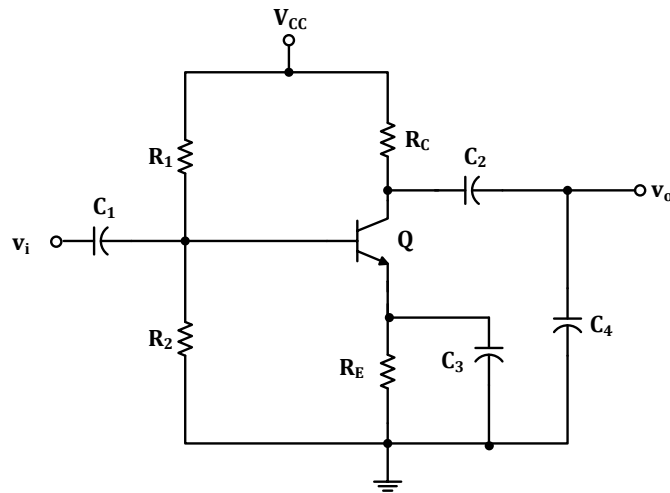

Figure 1.4
1. Wire up the capacitors to your circuit in Part B as shown in Figure 1.4. The capacitors' values will be assigned to you based on the listed values in Table 1.1.